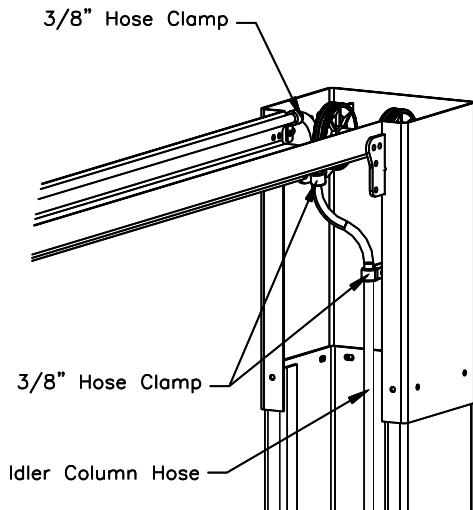
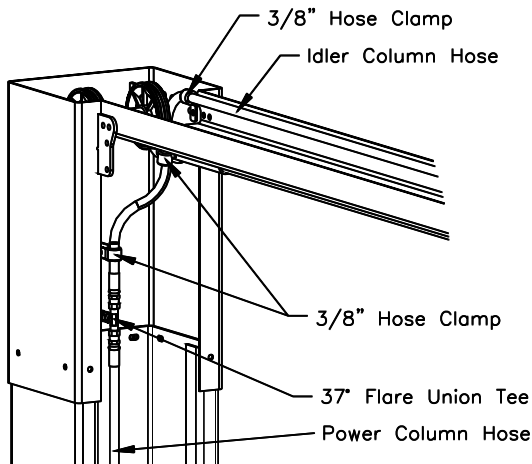
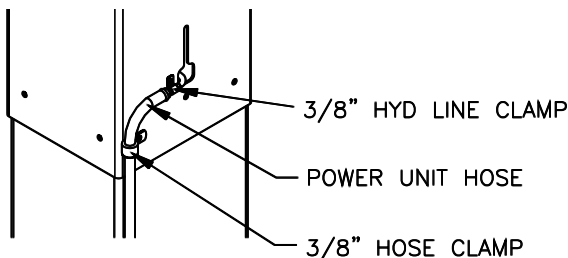

Fig 9a – Idler Side Column Ext. Hose Routing
Fig 9b – Power Side Column Ext. Hose Routing
Fig 10a – Power Unit Hose
- 22) Uncoil Idler side hose and route through the Idler Side column extension as shown in **Fig 9a**. taking care to avoid the synchronizing cables and hydraulic cylinder path. Remove slack and tighten all 3 clamps. Route hose across overhead avoiding the synchronizing cables and down through the Power Side column extension as seen in **Fig 9b**. Do Not Tighten Clamps at this time.
- 23) Loosely attach power column hose and idler column hose using the tee fitting (*in hardware box*) Attach Power Unit Hose to power side column extension as seen in **Fig 10a**. Connect Power unit hose to tee from **Fig 9b** and remove slack from power column hose. Tighten loose fittings and clamps from previous step. Serpentine any extra hose length in overhead.